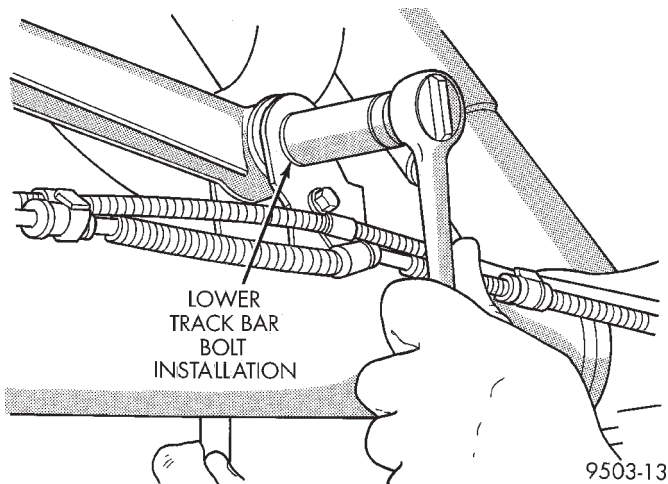

Fig. 19 Track Bar Mounting To Axle
(1) Remove the nut and bolt mounting the track bar to the rear axle (Fig. 19).
(2) Install the track bar into its mounting bracket on the rear axle (Fig. 19). Install the track bar bolt with the head of the bolt facing toward the rear of the vehicle. Do not tighten.
(3) Lower the vehicle to the ground until the full weight of the vehicle is supported by the wheels. Tighten both track bar attaching bolts to a torque of 95 N·m (70 ft. lbs.).